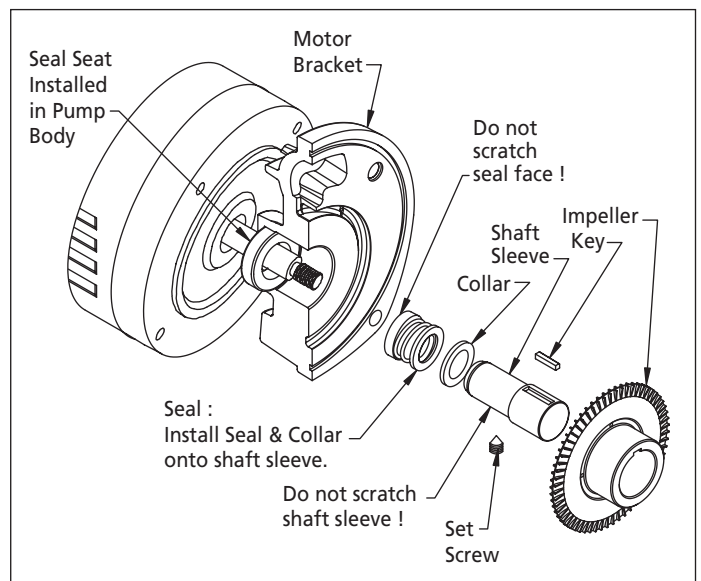

Figure 7 - Seal, Collar, Sleeve and Impeller Installation
8. Inspect the pump to see if the collar shown in Figure 7 is present. The mechanical seal requires the use of the collar (It is not applicable to model # 53EA94, 53EA95, 4JPD6A) to set the proper seal working height.
5. Assemble the seal over the pump shaft sleeve. If needed, a light coating of soapy water can be used on the inside of the seal bellows to facilitate for easier installation (see Figure 7).
6. Screw the pump shaft sleeve onto the motor shaft and turn clockwise until it bottoms. This location provides the proper seal tension for good surface contact between the seal and seat. If the key is assembled in the pump shaft before the shaft is threaded on, it will provide a better grip for tightening. Tighten setscrew on sleeve (See Figure 7).
7. Assemble the impeller over the pump shaft sleeve. Make sure the impeller floats freely (see Figure 7).
8. Assemble the o-ring gasket and attach the cover with the four screws. Torque to 15 to 20 lb-ft (See Figure 7).